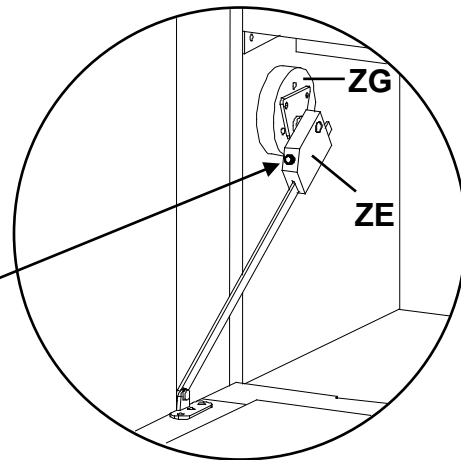

Fig. 14
14. Open the Door (R). To adjust the brake tension on the Door Stay (ZE) turn the screw on the front of the Door Stay clockwise to loosen or counterclockwise to tighten. See Figures 14 and 14a.